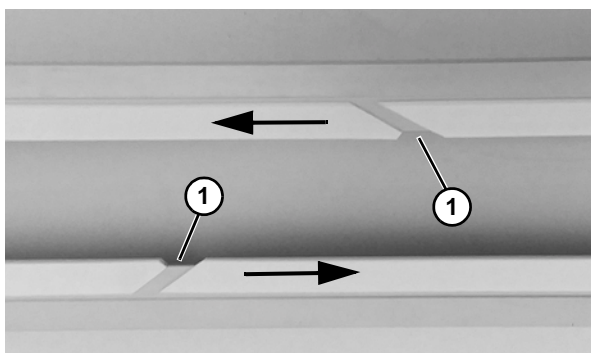

Figure 35
2. Allow a space of approximately 10 mm (**Figure 35, item 1**) between two slide rail ends. The travel direction is indicated by an arrow.